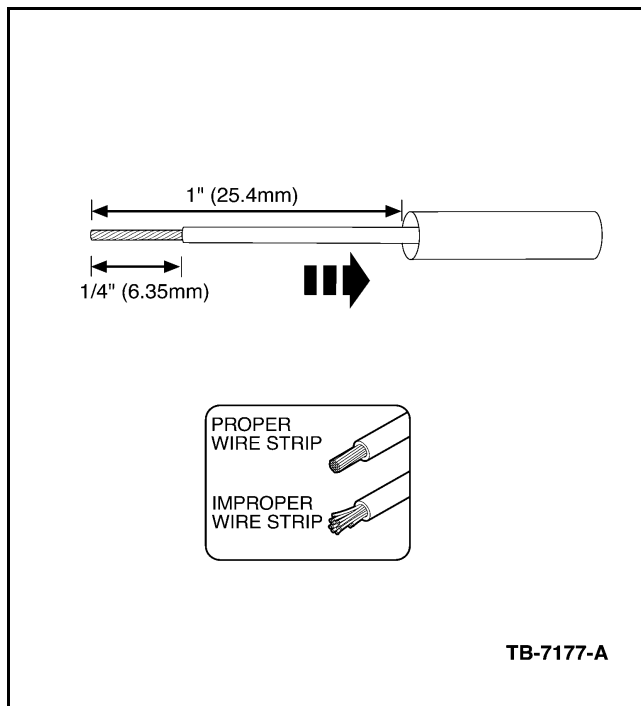

Figure 2 - Article 04-3-2
2. Slide heat shrink tubing onto one (1) of the wire ends to be crimped (must be at least 25.40 mm (1") away from stripped end (Figure 2)).